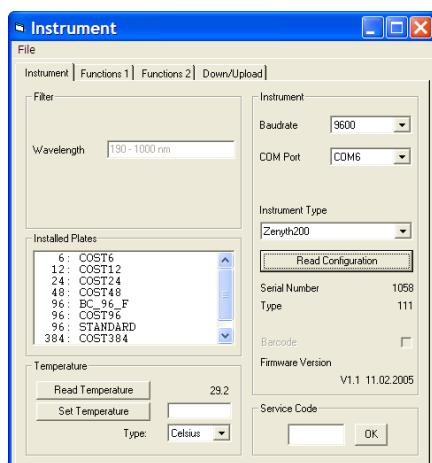

Figure 1-3. ADAP Software
3. In the ADAP Software, from the Setup menu, choose Instrument. Instrument appears (Figure 1-3).